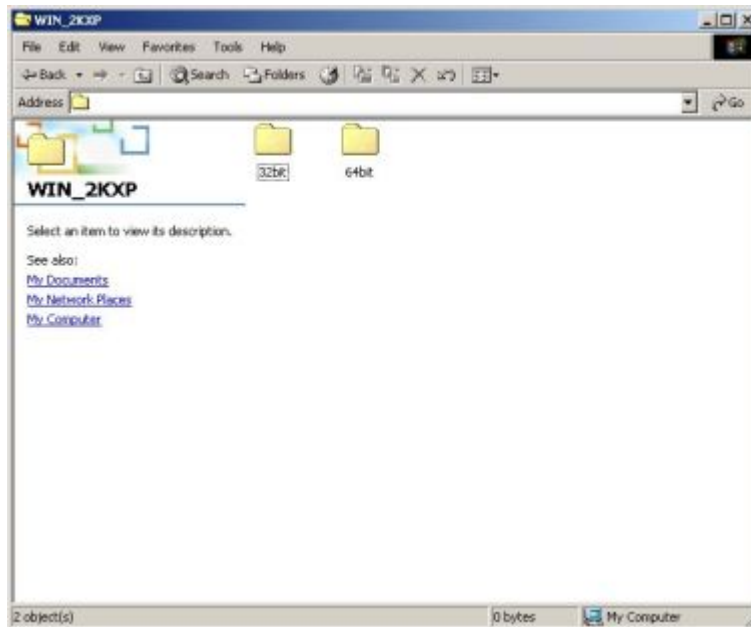

Figure 7-31: Select Operating System Type
Step 6: The window in **Figure 7-31** appears.
Step 7: In **Figure 7-31** select the operating system type installed on the system.